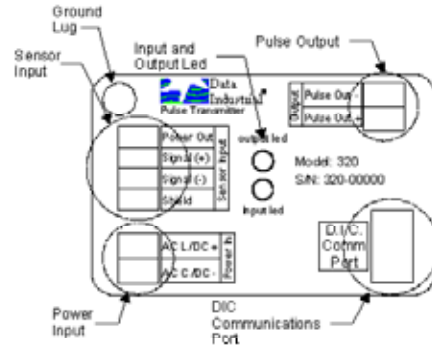

Figure 3: Model 320 Terminal Locations
1. Refer to Figures 3 and 4 for terminal connections and wiring example.